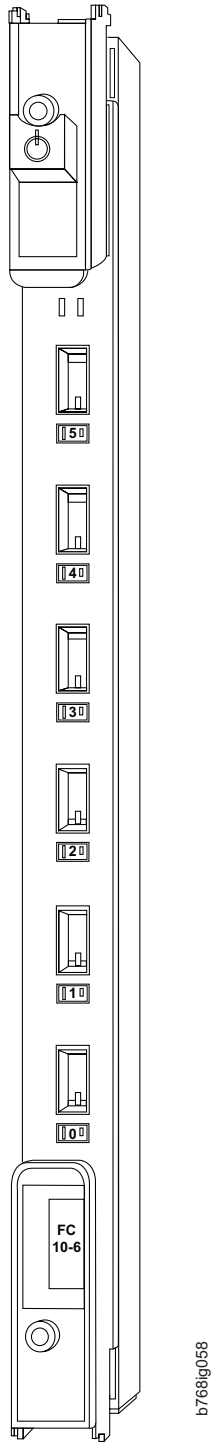

Figure 58. FC10-6 port blade, ports 0-5 (bottom to top)
- Figure 58 on page 170 shows an FC10-6 port blade